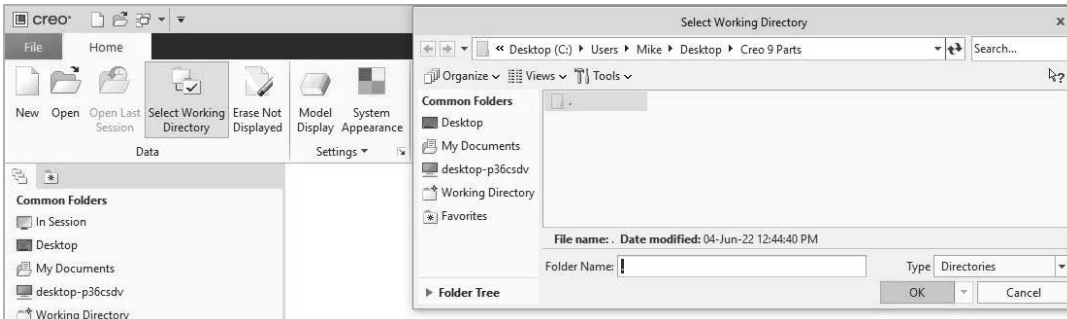

Figure 3-16 Set Working Directory
Step 2: Set your working directory, by *selecting the Select Working Directory* icon in the Home ribbon. Locate your working directory, and then *pick OK*. See Figure 3-16.